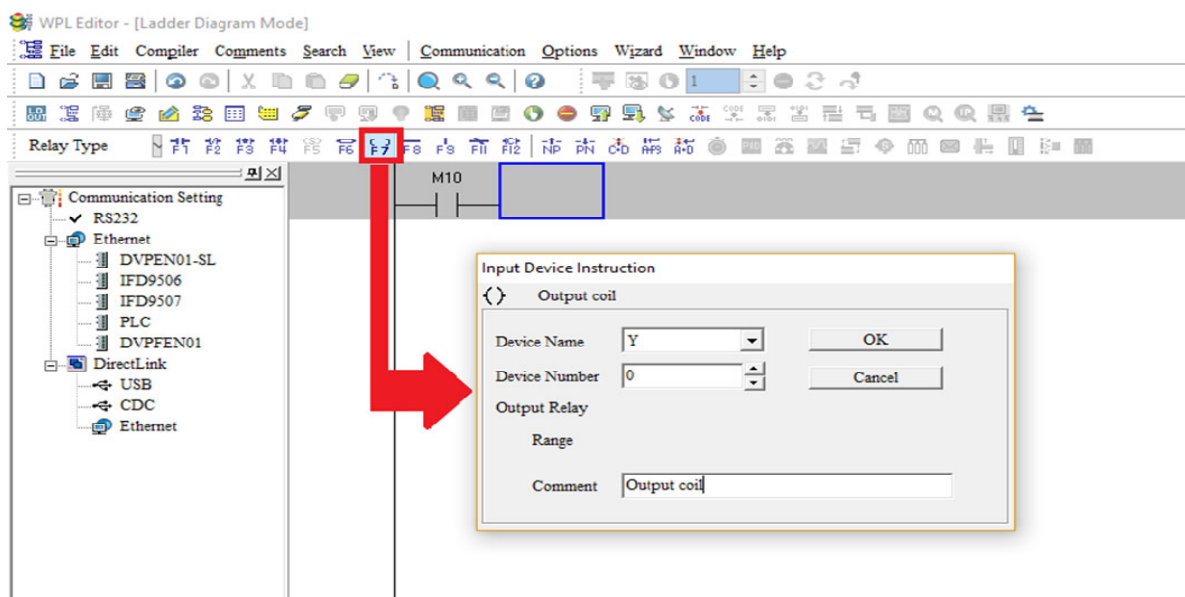

Figure 15-14
Step 3: Click on the output coil icon  or press function key F7. After the name of the input device and the comment dialog box have appeared, the device name (such as "Y"), device number (such as "0"), and input comments (such as "output coil") can be selected; press the OK button when finished (see figure 15-14 and 15-15 below).